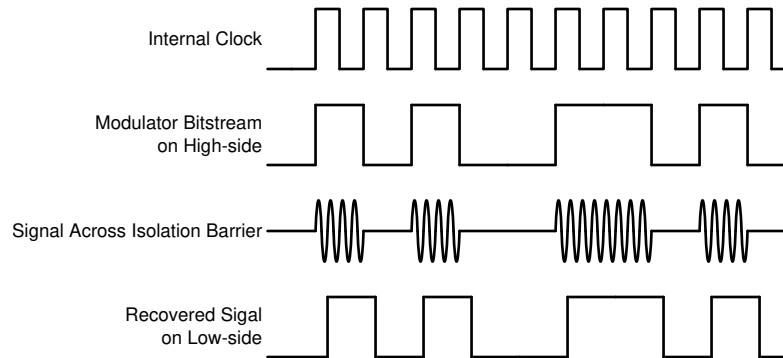

Figure 6-1. OOK-Based Modulation Scheme
The AMC3301 uses an on-off keying (OOK) modulation scheme, as shown in Figure 6-1, to transmit the modulator output bitstream across the capacitive SiO₂-based isolation barrier. The transmit driver (TX) shown in the *Functional Block Diagram* transmits an internally generated, high-frequency carrier across the isolation barrier to represent a digital *one* and does not send a signal to represent a digital *zero*. The nominal frequency of the carrier used inside the AMC3301 is 480 MHz.